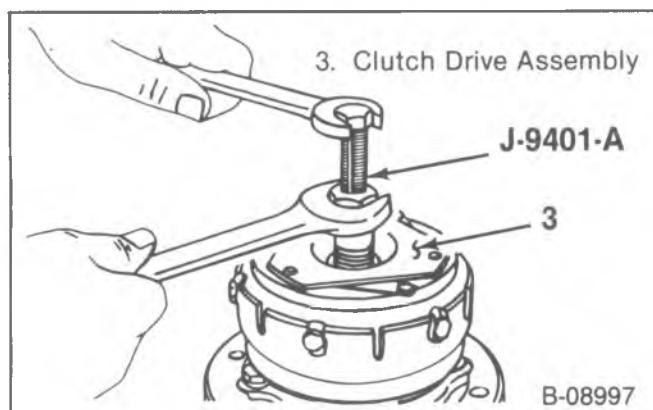

Figure 4—Clutch Plate and Hub Removal
- Hold the clutch plate and hub assembly (3) with J-25030.
2. Clutch drive hub (3) (figure 4).
- Thread J-9401-A into the clutch plate and hub assembly (3).